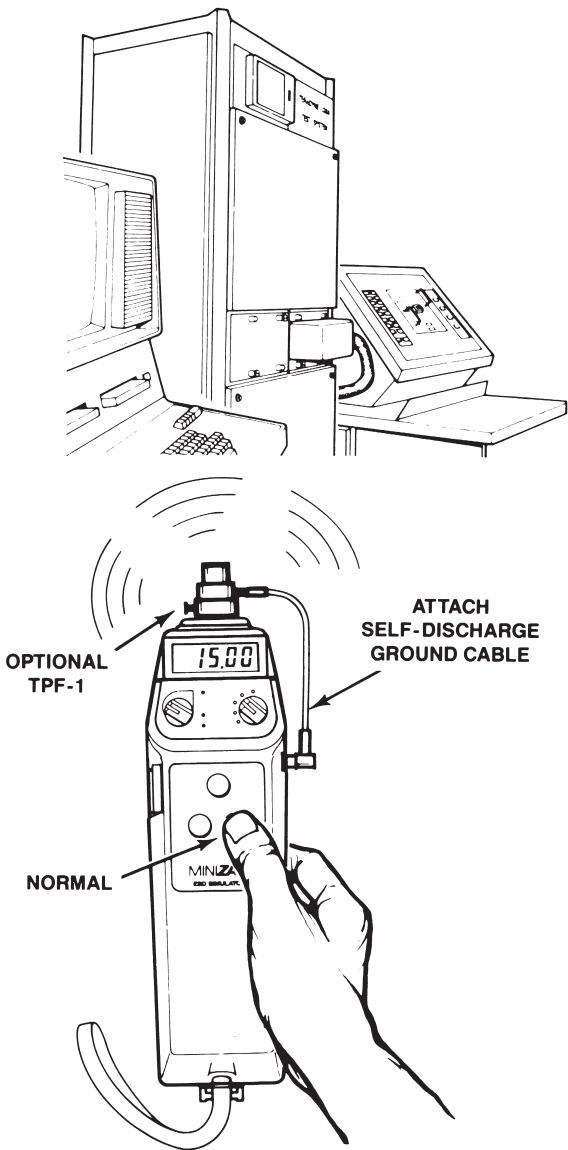

Figure 5
**SELF DISCHARGE MODE:** The optional TPF-1 self discharge/proximity tip adapter can be used to simulate the electromagnetic field associated with an ESD. (Fig. 5).